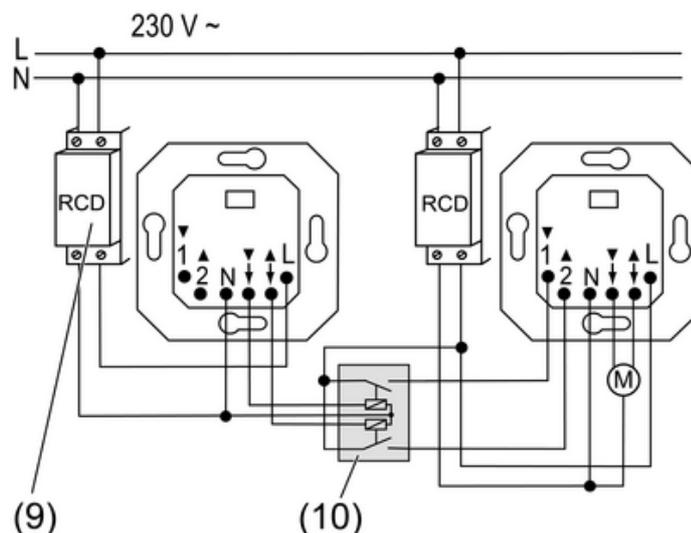

Figure 4: Connection example of two RCD circuits
- (9) Residual current device (RCD)
- (10) Venetian blind cutoff relay
- Connect the devices according to the connection example (Figure 4).